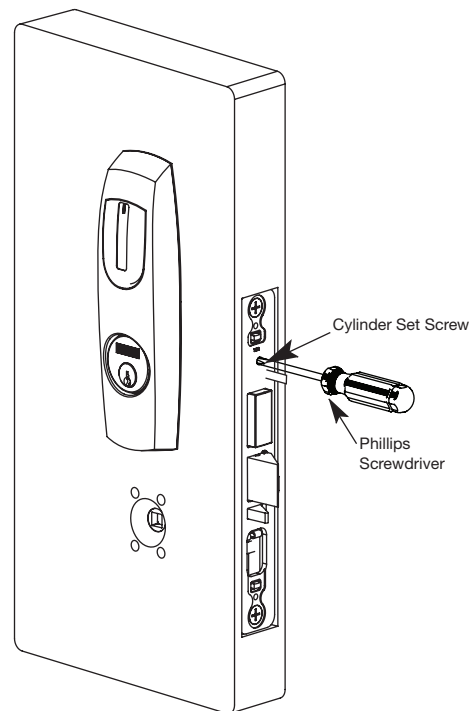

Fig. 8C
4. Tighten the cylinder clamp set screw to prevent unscrewing of the cylinder (Fig. 8C).